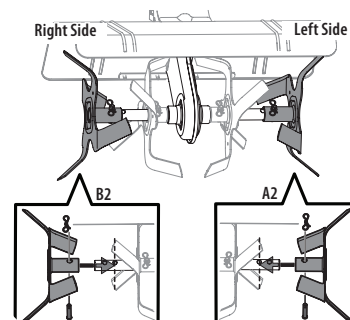

Figure 2
3. Use two clevis pins and two cotter pins from the manual bag. From the FRONT of the tiller install the outer LH tines (A2) onto the outer left side of the shaft. Install the outer RH tines (B2) onto the outer right side of the shaft. See Figure 2.